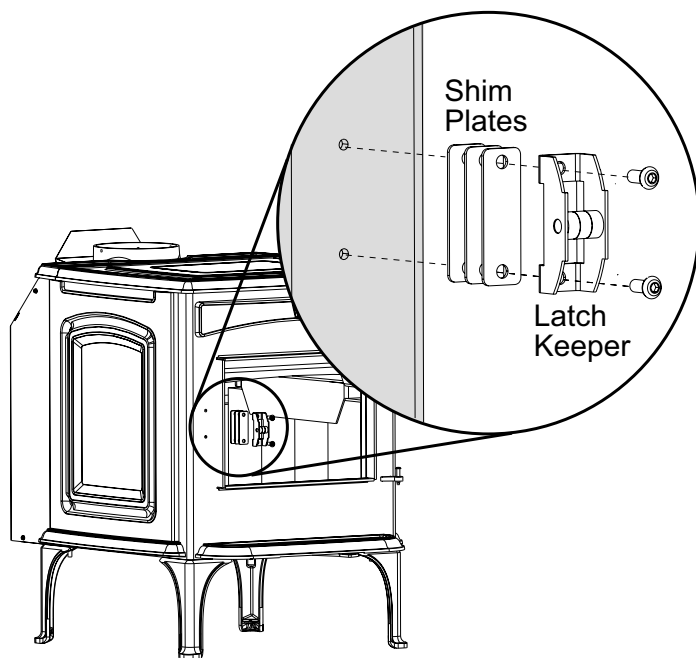

Figure 18. Latch adjustment.
1. Remove the two socket head screws and latch keeper from the stove. See fig. 18.